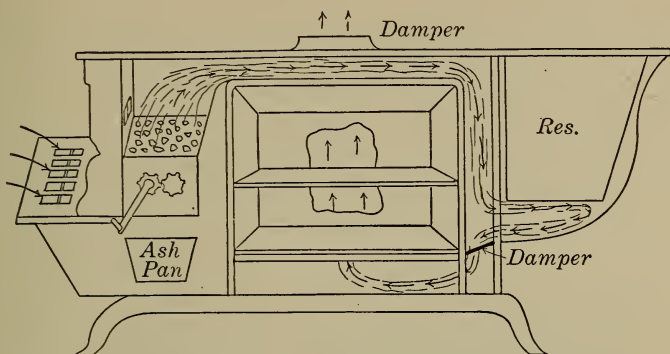

FIGURE 33.—DRAFT IN A KITCHEN RANGE.
**58. Draft in a Kitchen Range.** — Figure 33 shows the ordinary kitchen range. The air enters at the front and